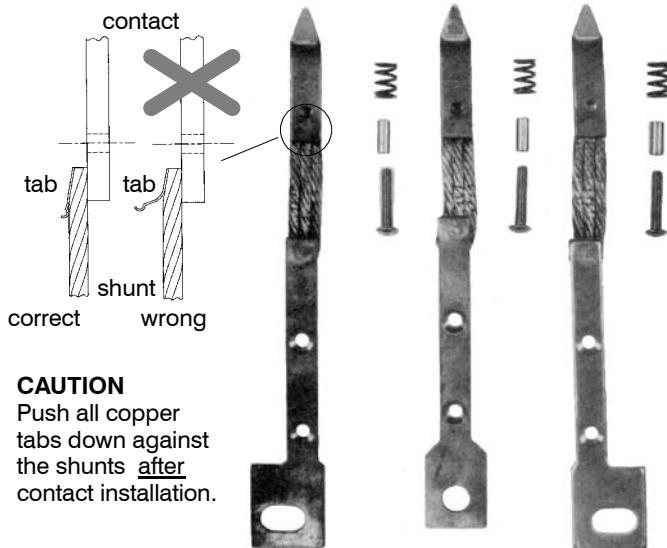

Figure 6. Movable contacts and hardware.
Movable Contacts (Figure 6)
3. Disconnect the movable contacts from the shaft by loosening the screws counterclockwise with a #25 Torx^R driver (or 1/8, allen wrench on older units). Remove the screws, bushings, and springs from the shaft. See Figures 6 and 8.
5. Install the new movable contact units from the kit. On 30–100 amp switches, the outside bus plates face inward; on 150–225 amp, they face outward. Be sure that the counter-sunk mounting holes face out. Follow this procedure for each contact: Insert the movable contact through the window in the back of the base, then fasten the bus plate to the base. Tighten the bus plate screws to 18–20 inch-pounds. See Figures 6 and 8.
7. Secure the movable contacts to the contact shaft as follows: Put a new screw (from kit) with a new spring (read step 6) onto the magnetized #25 Torx driver. Insert the screw through the shaft from the back of the switch and hold it in place. Slip the bushing onto the screw from the front. Position the movable contact onto the shaft and tighten the screw clockwise to 30 inch-pounds. Lift the contact tip to check for spring pressure. Push the copper tabs down against the shunts. See Figures 6, 7, 8.